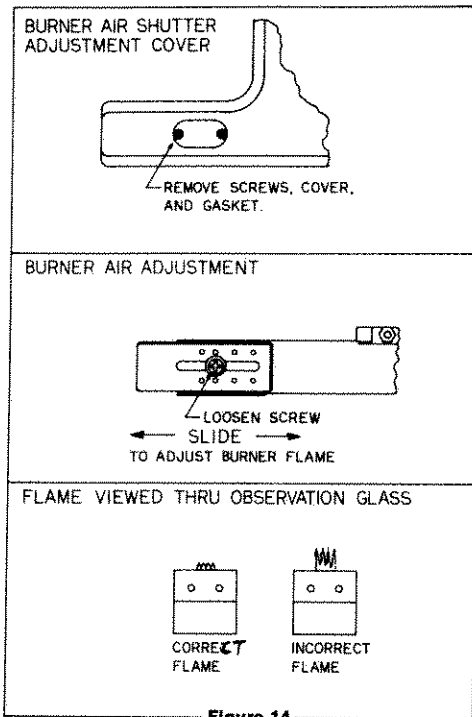

Figure 14
4. If the thermostat circuit is closed at the setting chosen in Step 2, the ignition sequence begins. After approximately 40-45 seconds, the main burner flame should be established. NOTE: The air shutter on the burner was pre-set at the factory to give constant ignition and a proper burner flame. However, due to elevation, voltage, gas variances, etc., it may be necessary to re-adjust the air shutter. For air shutter access and for proper flame characteristics, see Figure 14.
6. Check burner for proper operation. Flame should be characterized by a hard blue flame with well defined burner ports. (See Figure 14.) If flame cannot be adjusted to achieve desired burner flame, the surface of the burner and each burner port should be cleaned using a steel wire brush and the burner blown clean using compressed air.
- Periodically observe the main burner flame to assure it is burning with a hard blue flame with well-defined burner ports. (See Figure 14.) Adjust air shutter to achieve desired burner flame. If flame appears yellow or burner has a lazy flame and adjusting air shutter will not correct, shut furnace down and contact a qualified service person.